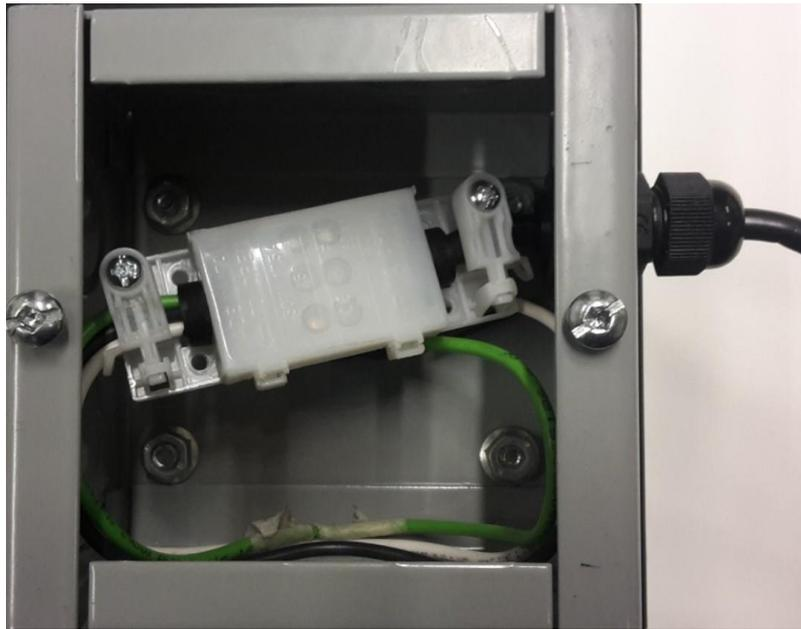

Fig. 44 Cable gland installation scheme
- A. Open the lid of the junction box (Figure 44).
- F. Insert the terminals box into the junction box (Figure 44) and close the junction box.
- E. Insert the terminal box inside the junction box (Figure 44) and proceed with point E., Paragraph 11.2.1.